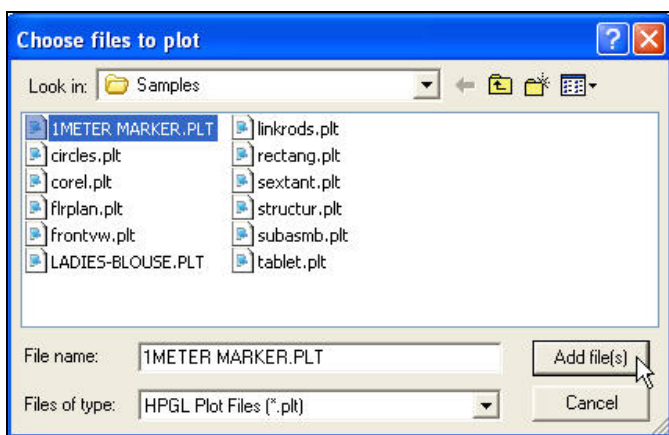

Figure 46. Choose files to plot window
The **Choose files to plot** window will appear (Figure 46).
7. Select **1MeterMarker.PLT** and click **Add file(s)** (Figure 46).